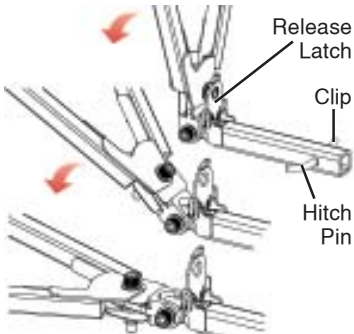
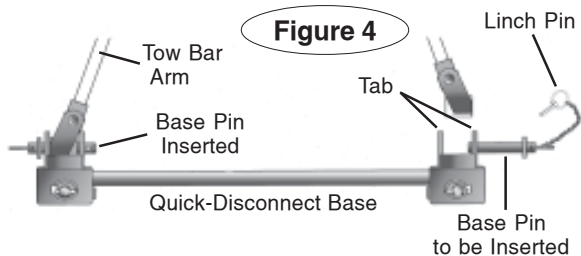

Figure 3
Figure 4
folded position (Fig. 1), insert it into the motorhome's hitch receiver, and secure it with the Hitch Pin and Clip (Fig. 3).
5. Push the release latch (Fig. 3) forward, to bring both arms down to a horizontal position. Standing to one side, swing both arms away from you, aligning the outermost arm with the tabs on the quick-disconnect base (Fig. 4). Using the included Base Pin (Fig. 4), attach the arm and secure it with a linch pin or optional padlock. Now, swing the other arm to the opposite side and connect it in the same manner.